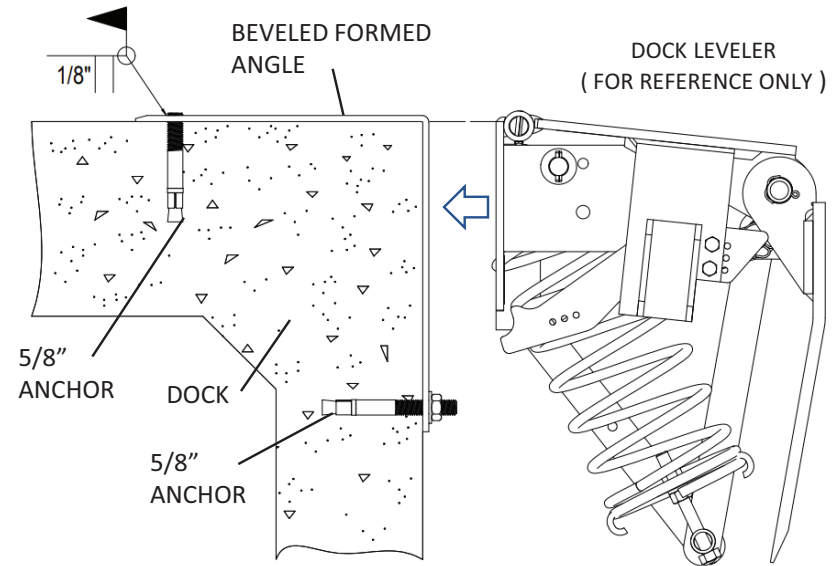

Figure 4
3. If beveled formed angle is used, skip to step 8. (See **Figure 4**)